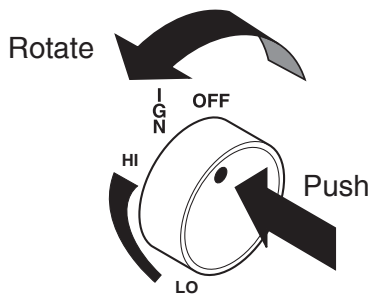

Figure 36 - IGN Position
6. From OFF position, push in gas control knob slightly and turn counterclockwise to the IGN position. Figure 36. Push in and hold control knob for 5 seconds.